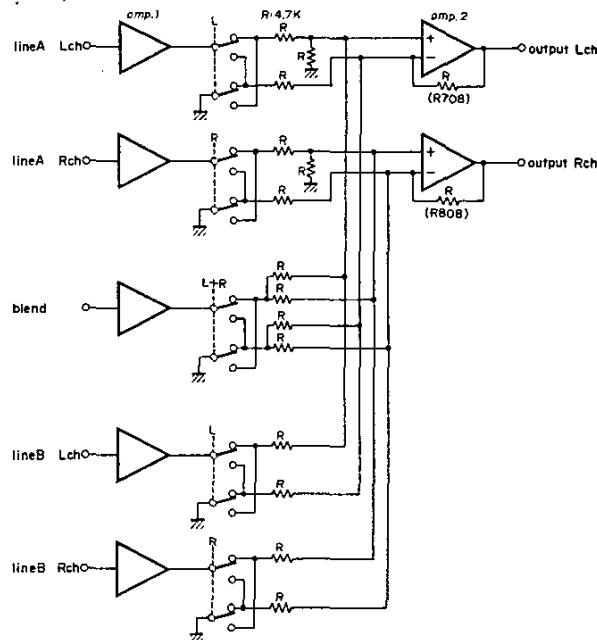

Fig. 2.4
Fig. 2.4 shows the inverter and mixer block diagram. Both left and right channel inputs of line A and also line B and blend mic. input are mixed in the circuit. And the phase of each input can be reversed independently by depressing each phase invert button. Amp. 1 output is conducted to non-inverting input (+) of amp. 2, and when phase invert button is depressed, amp. 1 output is conducted to inverting input (-) of amp. 2. Therefore the polarity of amp. 2 output will be changed i.e. phase is reversed. When microphone and phono cartridge are detected out of phase according to item 2.4. "Phase Check", to correct in phase is possible by depressing the phase invert button. Note: Phase invert button operates in the mixing mode (mixing button is depressed at function selector) only.